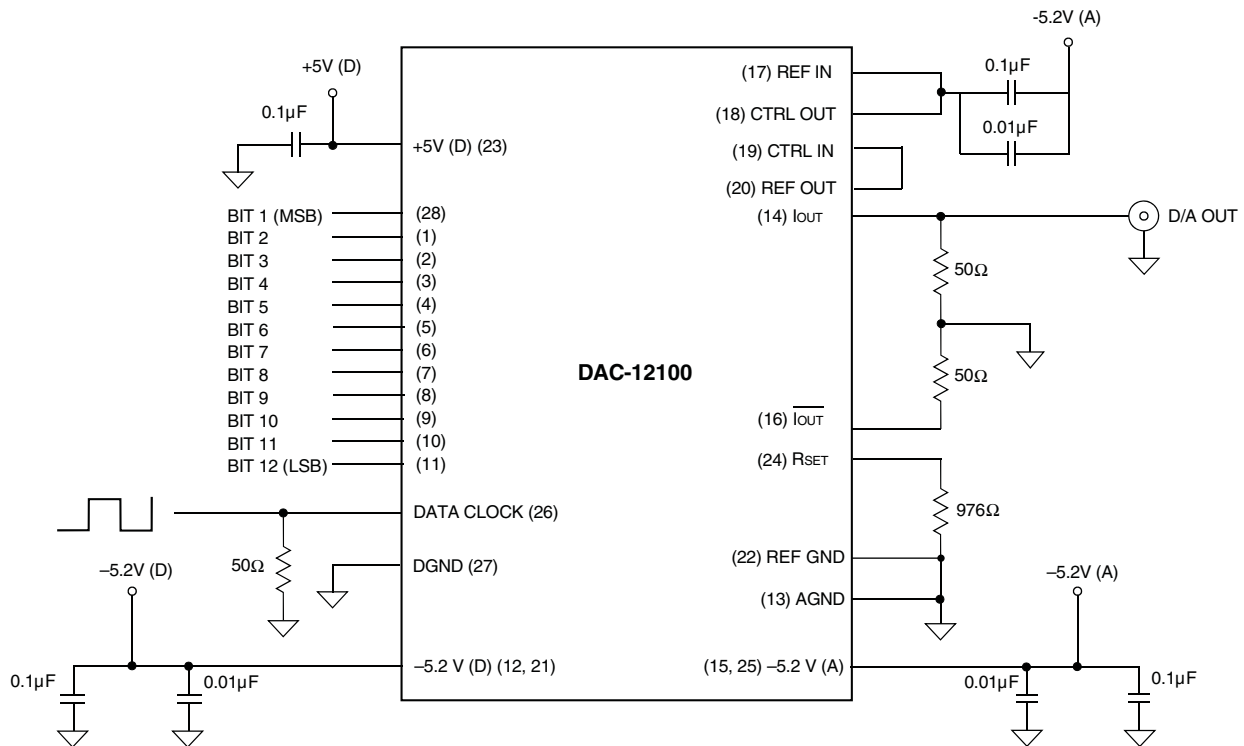

Figure 2. Typical Connection Diagram
The internal 12-bit register is updated on the rising edge of the Data Clock (pin 26). To minimize reflections and noise at high clock speeds proper termination techniques should be used. In the PCB layout the clock runs should be kept as short as possible and have minimal loading. The PCB should employ a controlled characteristic line impedance (Z_0) of 50 Ohms. A shunt termination resistor, equal to Z_0 , should be placed as close to the CLOCK pin as possible, see Figure 2. The rise, fall and propagation delay times will be effected by the shunt termination resistor.
puts. Current is steered to either I_{OUT} or $\overline{I_{OUT}}$ in proportion to the input code. The sum of the two currents is always equal to the full scale current minus one LSB. See Table 1. The output can be converted to a voltage through a load resistor, typically 50 Ohms. Both current outputs should have the same load resistance value. See Figure 2. The output voltage generated is:
In order to reduce power supply noise separate -5.2V analog and digital power supplies should be used. The power supply lines should be bypassed with 0.1µF and 0.01µF ceramic capacitors placed as close to the -5.2V analog pins (15, 25) and digital pins (12, 21) as possible. The analog and digital power supply ground returns should be connected at one point as close to the power source as possible. The +5V supply pin (23) should be bypassed with a 0.1µF ceramic capacitor connected as close to the pin as possible. See Figure 2.
The internal reference is a -1.23V, typical, bandgap voltage reference. The internal reference is connected to Reference OUT (REF OUT, pin 20) and the internal control Amplifier (CTRL IN, pin 19). The control Amplifier OUT (CTRL OUT, pin 18) should be connected to Reference IN (REF IN, pin 17) and to -5.2V (pin 15) Analog Supply through a 0.1µF and a 0.01µF ceramic capacitor (as shown in figure 2) in order to improve the settling time This reduces switching noise and improves output settling time. The Full Scale Output Current, $\overline{I_{OUT}}$ (pin 14) and I_{OUT} (pin 16), is controlled by the REF OUT (pin 20) voltage and the RSET (pin 24) resistor through the following equation: